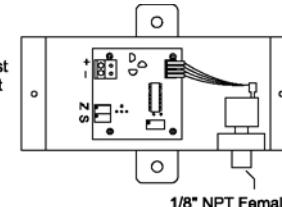

Figure 4. Differential Pressure Transducer With mA Output
- Run conduit and wiring to the transducer. Connect wiring as shown in Figures 4 through 7, and set the switch to the correct position.
Use 12 AWG wire maximum for wiring terminals and copper or stainless steel tubing for the transducer connections. See Figures 4 through 7 for wiring diagrams and Figures 8 and 9 for jumper designations.
- Remove the blue terminal block by carefully pulling it off the circuit board. See Figure 4.